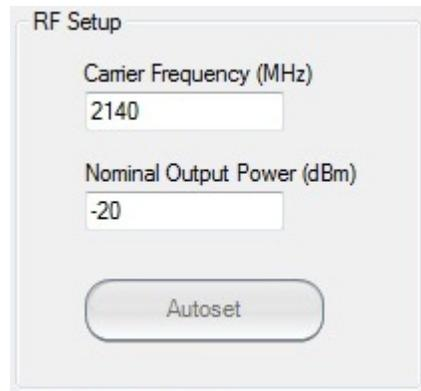

Figure 3-18: RF Setup Parameters
1. Enter the **Carrier Frequency** and **Nominal Output Level**, as shown in Figure 3-18.